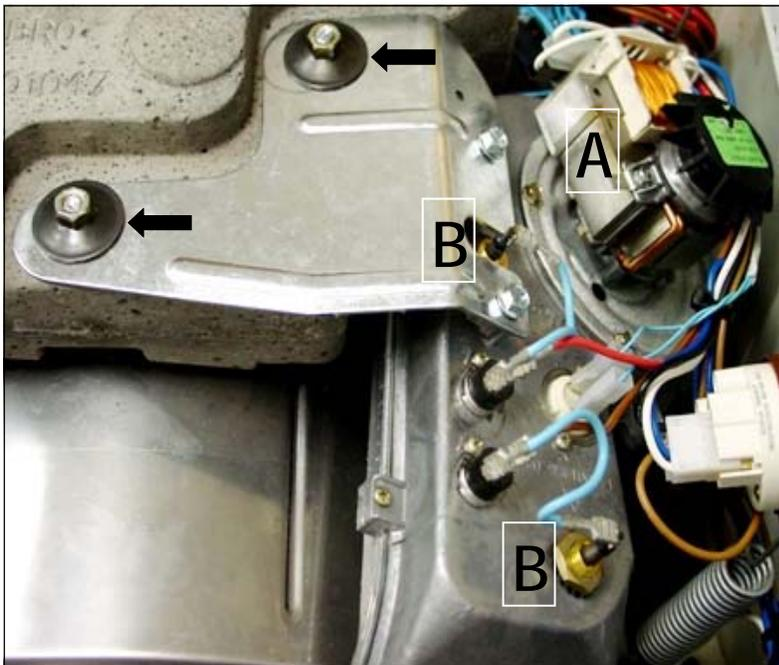

Fig. 9-2
To remove the Heater Assembly, remove the two (2) 13mm Heater Mounting Bracket Bolts (Fig. 9-2) and cut the Vent / Boot Zip Tie.